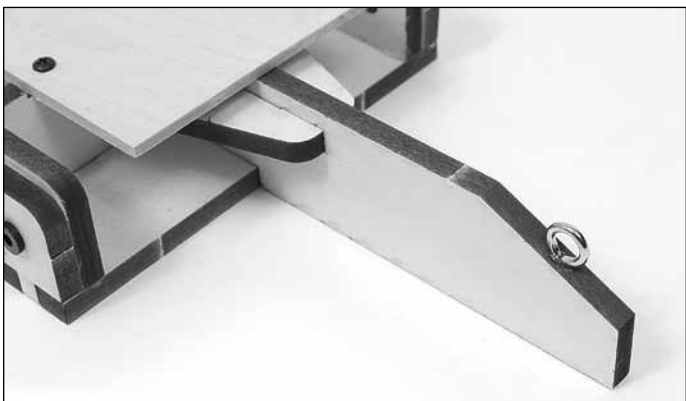

Figure 21
3. Gripping the screw eye with the pliers or your fingers, carefully screw it in the middle of the angled side of Part L. The screw eye should face so the wide side is in line with Part L (Figure 21).